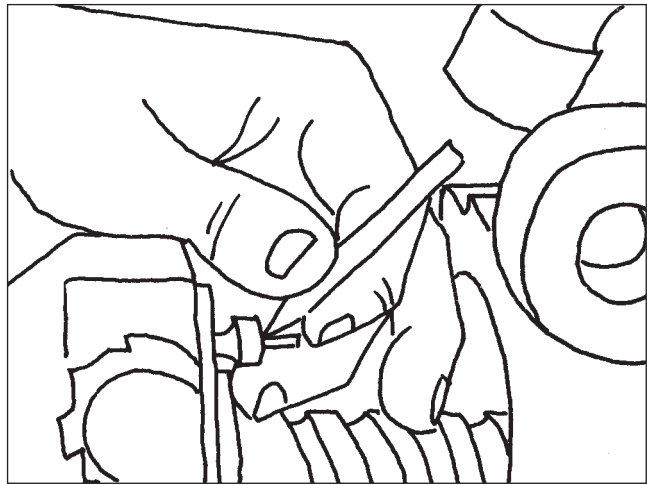

Figure 47
10. With the plunger flange against the spring pin, use a center punch and hammer to stake the threads of the plunger body. (Figure 47).